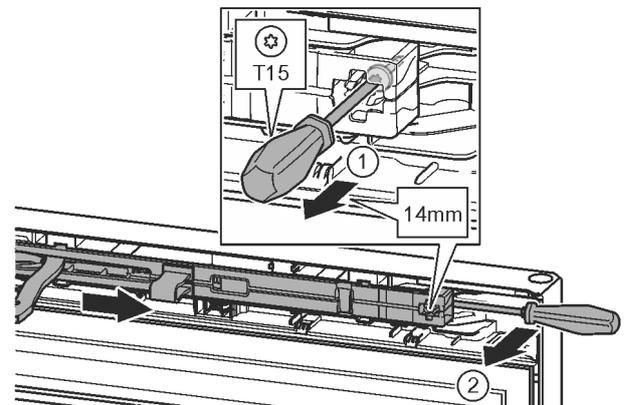

Fig. 12
- ▶ Undo the soft stop mechanism screw with a T15 screwdriver approx. 14 mm. Fig. 12 (1)
- ▶ Insert a screwdriver behind the handle side and rotate forwards. Fig. 12 (2)
- ▶ Remove the soft stop mechanism. Fig. 12 (3)